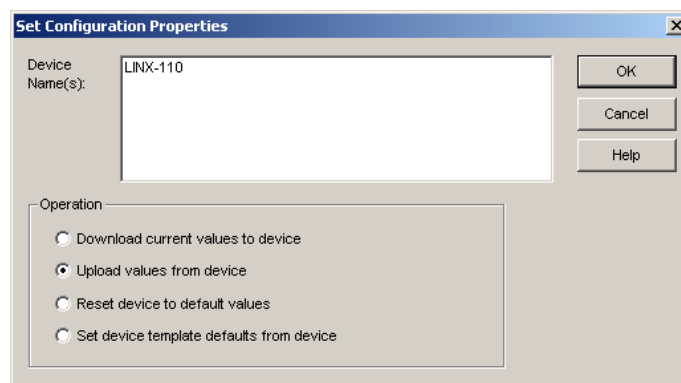

Figure 130: Set Configuration Properties in LonMaker TE.
2. This opens the dialog shown in Figure 130.